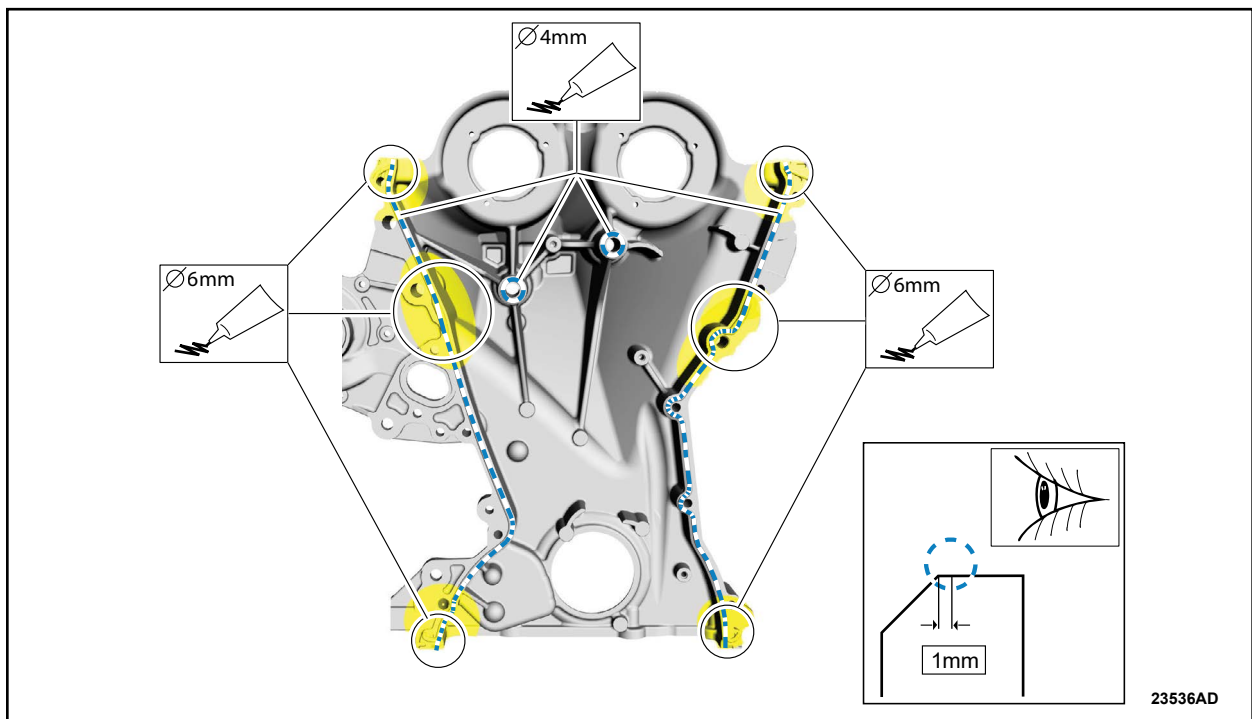

FIGURE 34
41. Apply beads of silicone sealant that are 4 mm (0.157 in) and 6 mm (0.236 in) as shown in Figure 34.